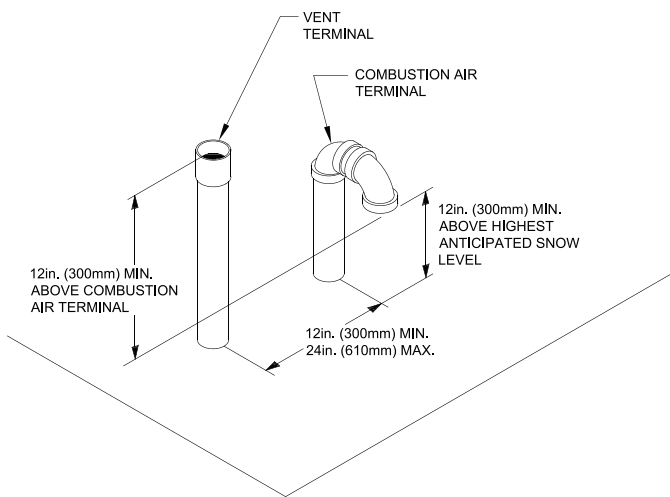
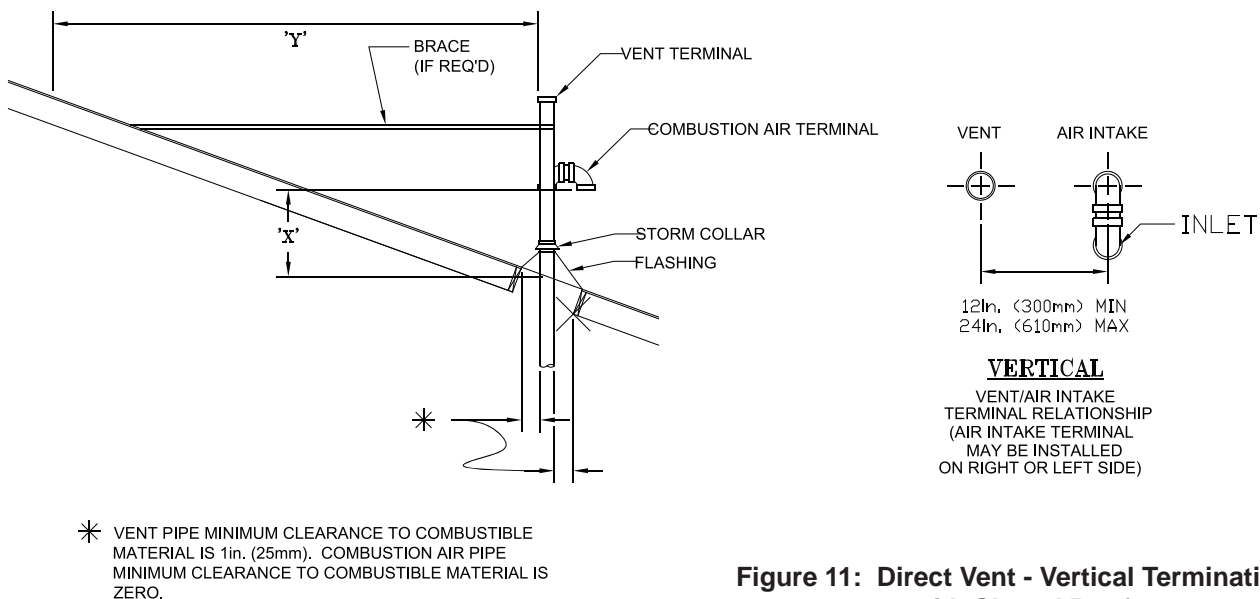

Figure 10: Direct Vent - Vertical Terminations
Figure 11: Direct Vent - Vertical Terminations with Sloped Roof
- ii. Vertical Roof Venting: Use coupling on vent and two 90° elbows turned downwards for combustion air as shown in Figure 10 and Figure 11.
- d. See Table 14 for CPVC/PVC installer provided vent and combustion air components required for optional vertical roof terminals shown in Figure 10.